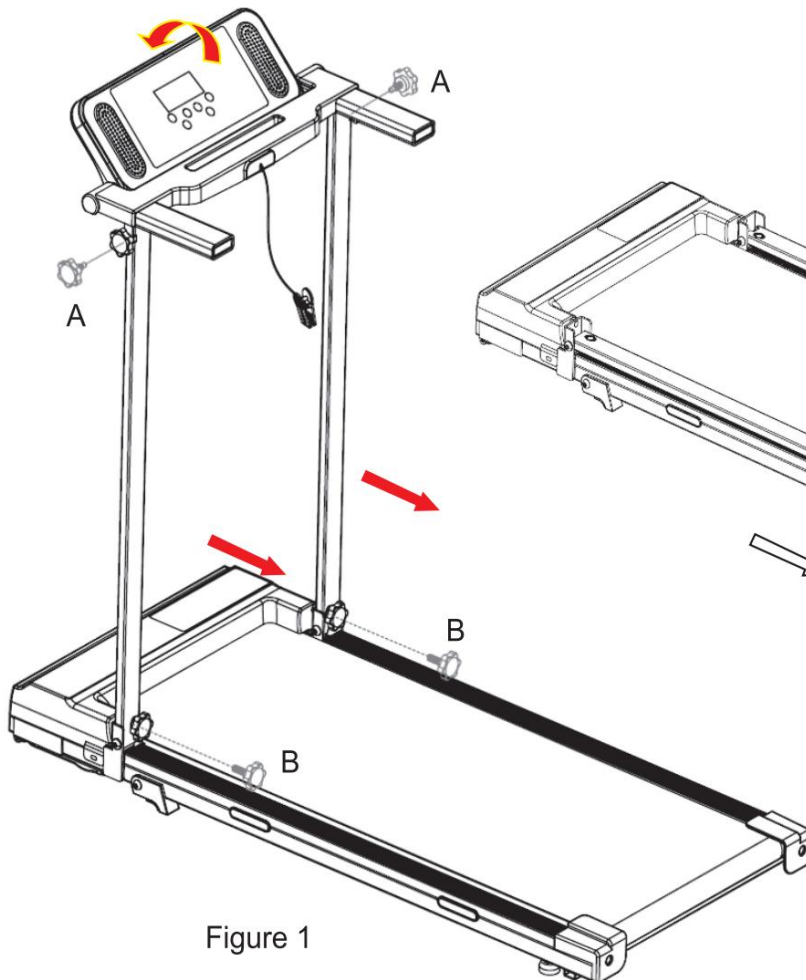

Figure 1
6. Pull the display panel backward until it is flush with the electronic meter, unscrew the two hexagonal knobs (M8*22) at Position A (see Figure 1), then gently rotate the electronic meter to align flush with the riser. Next, unscrew the two hexagonal knobs (M8*25) at Position B (see Figure 1).